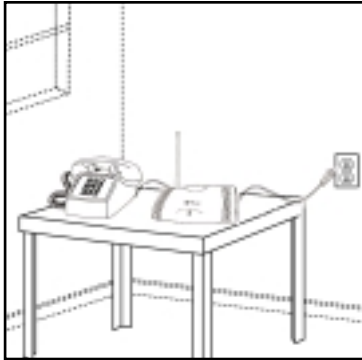
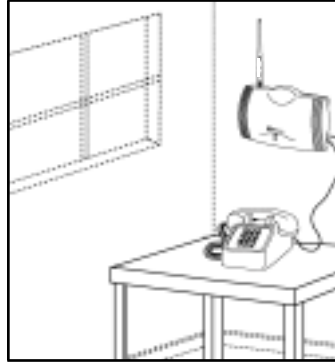

Figure 3 – Table-mount with antenna pointed upward and located near a window for optimum signal strength.
Figure 2 – Wall-mount with antenna pointed upward and located near a window for optimum signal strength.
- Locate the antenna above ground and as close to windows (or exterior walls) as possible - **see Figure 2 and Figure 3.**
- The antenna location needs to be adjusted - see **Figure 2**.